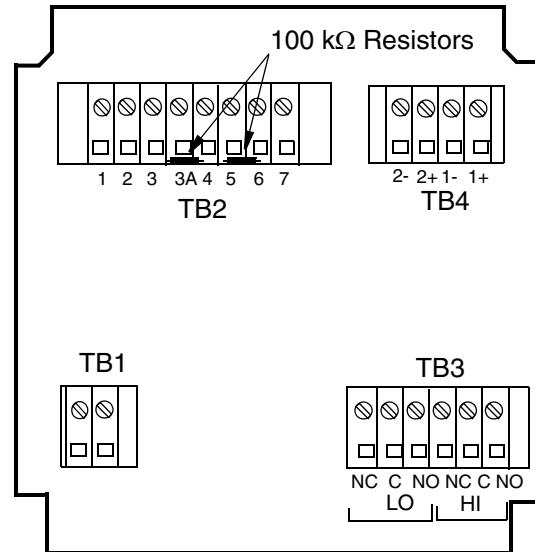

Figure 19. Thermistor Temperature Simulation (Metal Enclosure Shown)
1. Connect an ammeter/voltmeter to the analog output terminals. See Figure 19 and “Wiring of Plastic Enclosure” on page 16 or “Wiring of Metal Enclosure” on page 17.